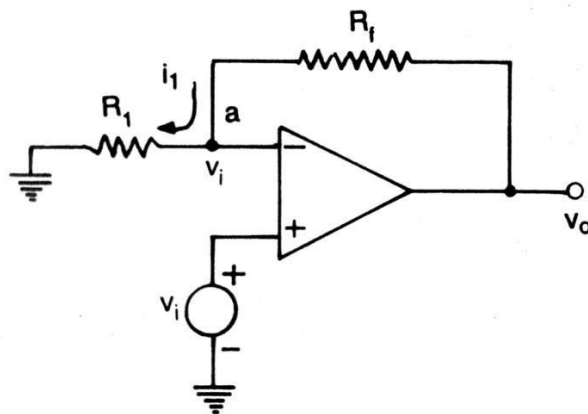

Fig. 2.7 (a) Non-inverting amplifier
- If the signal is applied to the non-inverting input terminal and feedback is given as shown in Figure 2.7(a), the circuit amplifies without inverting the input signal. Such a circuit is called non-inverting amplifier.
- As $V_d=0$, the voltage at node 'a' in Figure 2.7(a) is V_i . Now R_1 and R_f forms a potential divider.